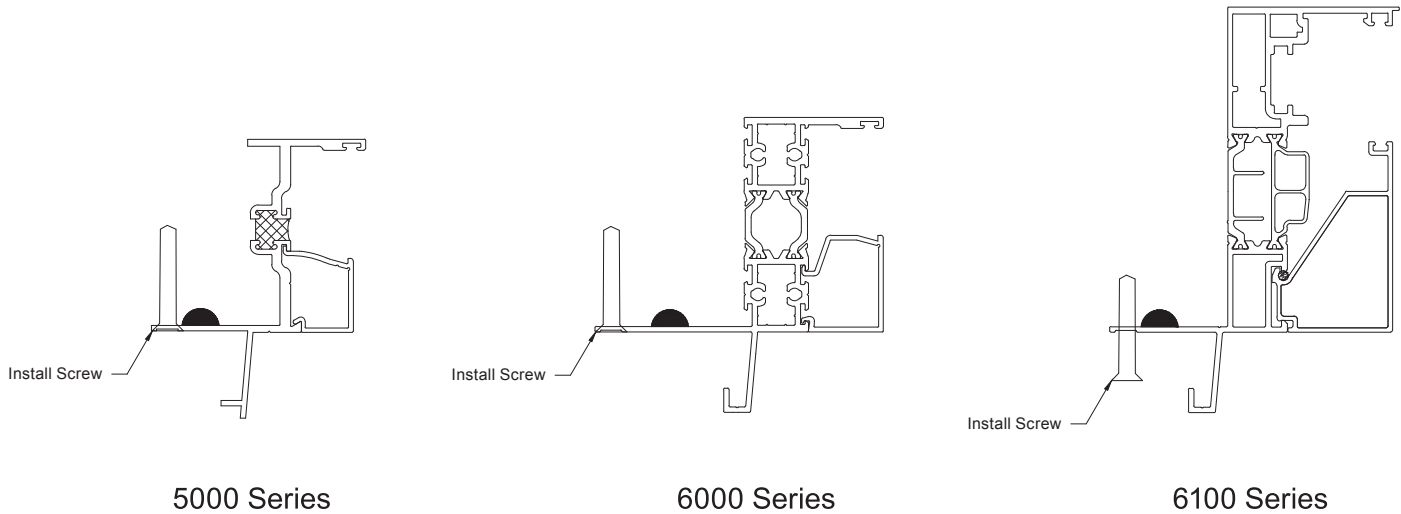

FIGURE 5A
7. Secure window using #10 x 2 ½" stainless steel screws (or equivalent). Install screws on the linear fin indicator as shown in Figure 5a; spacing should be as shown in Figure 5b where A = 3" and B = 12". Holes for screws should be pre-drilled before installation.